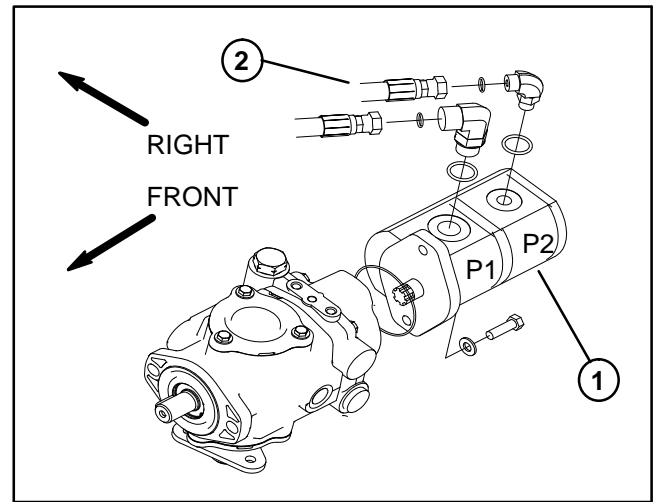

Figure 36
NOTE: Disconnect hose connection on the gear pump (P2) (Fig. 36). On Reelmaster 3550–D machines, the connection at gear pump (P2) leads to the steering control valve (P) port. On Reelmaster 3555–D/3575–D machines, the connection at gear pump (P2) leads to the lift control manifold (P) port.